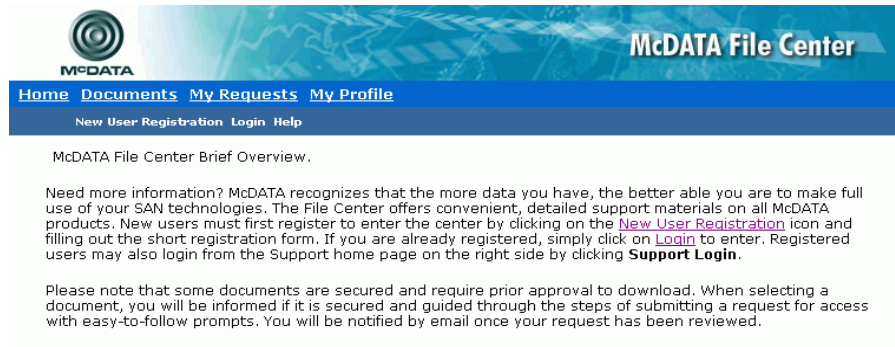

Figure 4-79 McDATA File Center Home Page
- a. At a PC with Internet access, open the File Center home page (Figure 4-79 on page 4-88). The URL is <http://central.mcdata.com>.